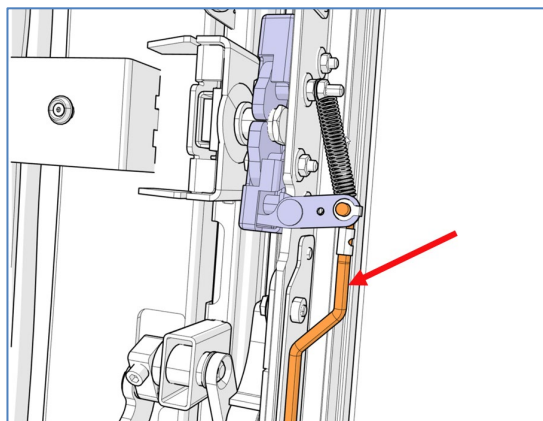
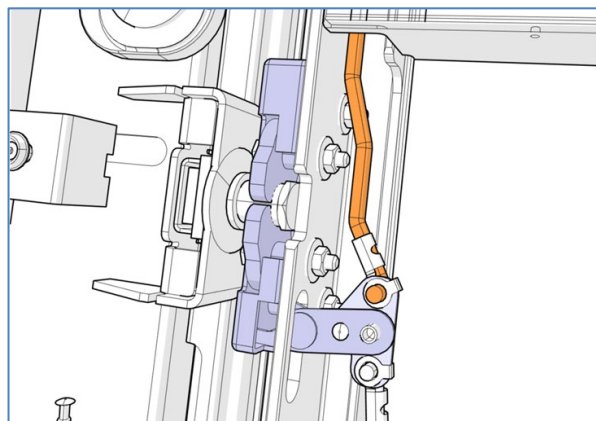

Figure 25
Figure 26
1. Disconnect the upper end (Figure 25) and the lower end (Figure 26) of the link rod between both latches.